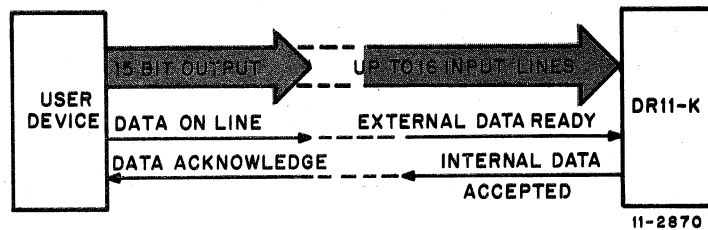

Figure 6-1 Block Diagram of Input Example 1
**Solution:** Because the external device has only a 15-bit output and the DR11-K has a 16-bit input, the sixteenth bit is left unconnected, and is disabled by internal clamping circuitry so that it reads as a logical 0 to the software. The data input of the DR11-K should be set for direct line input (Table 5-1), as the external device is capable of holding data on the data lines (Figure 6-1).